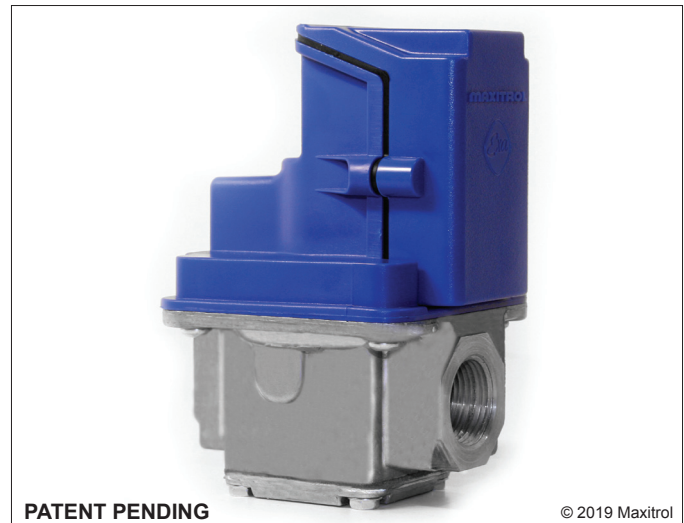

Figure 1: EXA Modulating Valve Series
The E40(H), E50(H), E60(H) modulating valves are highly accurate and precise modulating control valves (see figure 1). EXA valves provide repeatable process control with minimal hysteresis throughout the entire range of modulation.